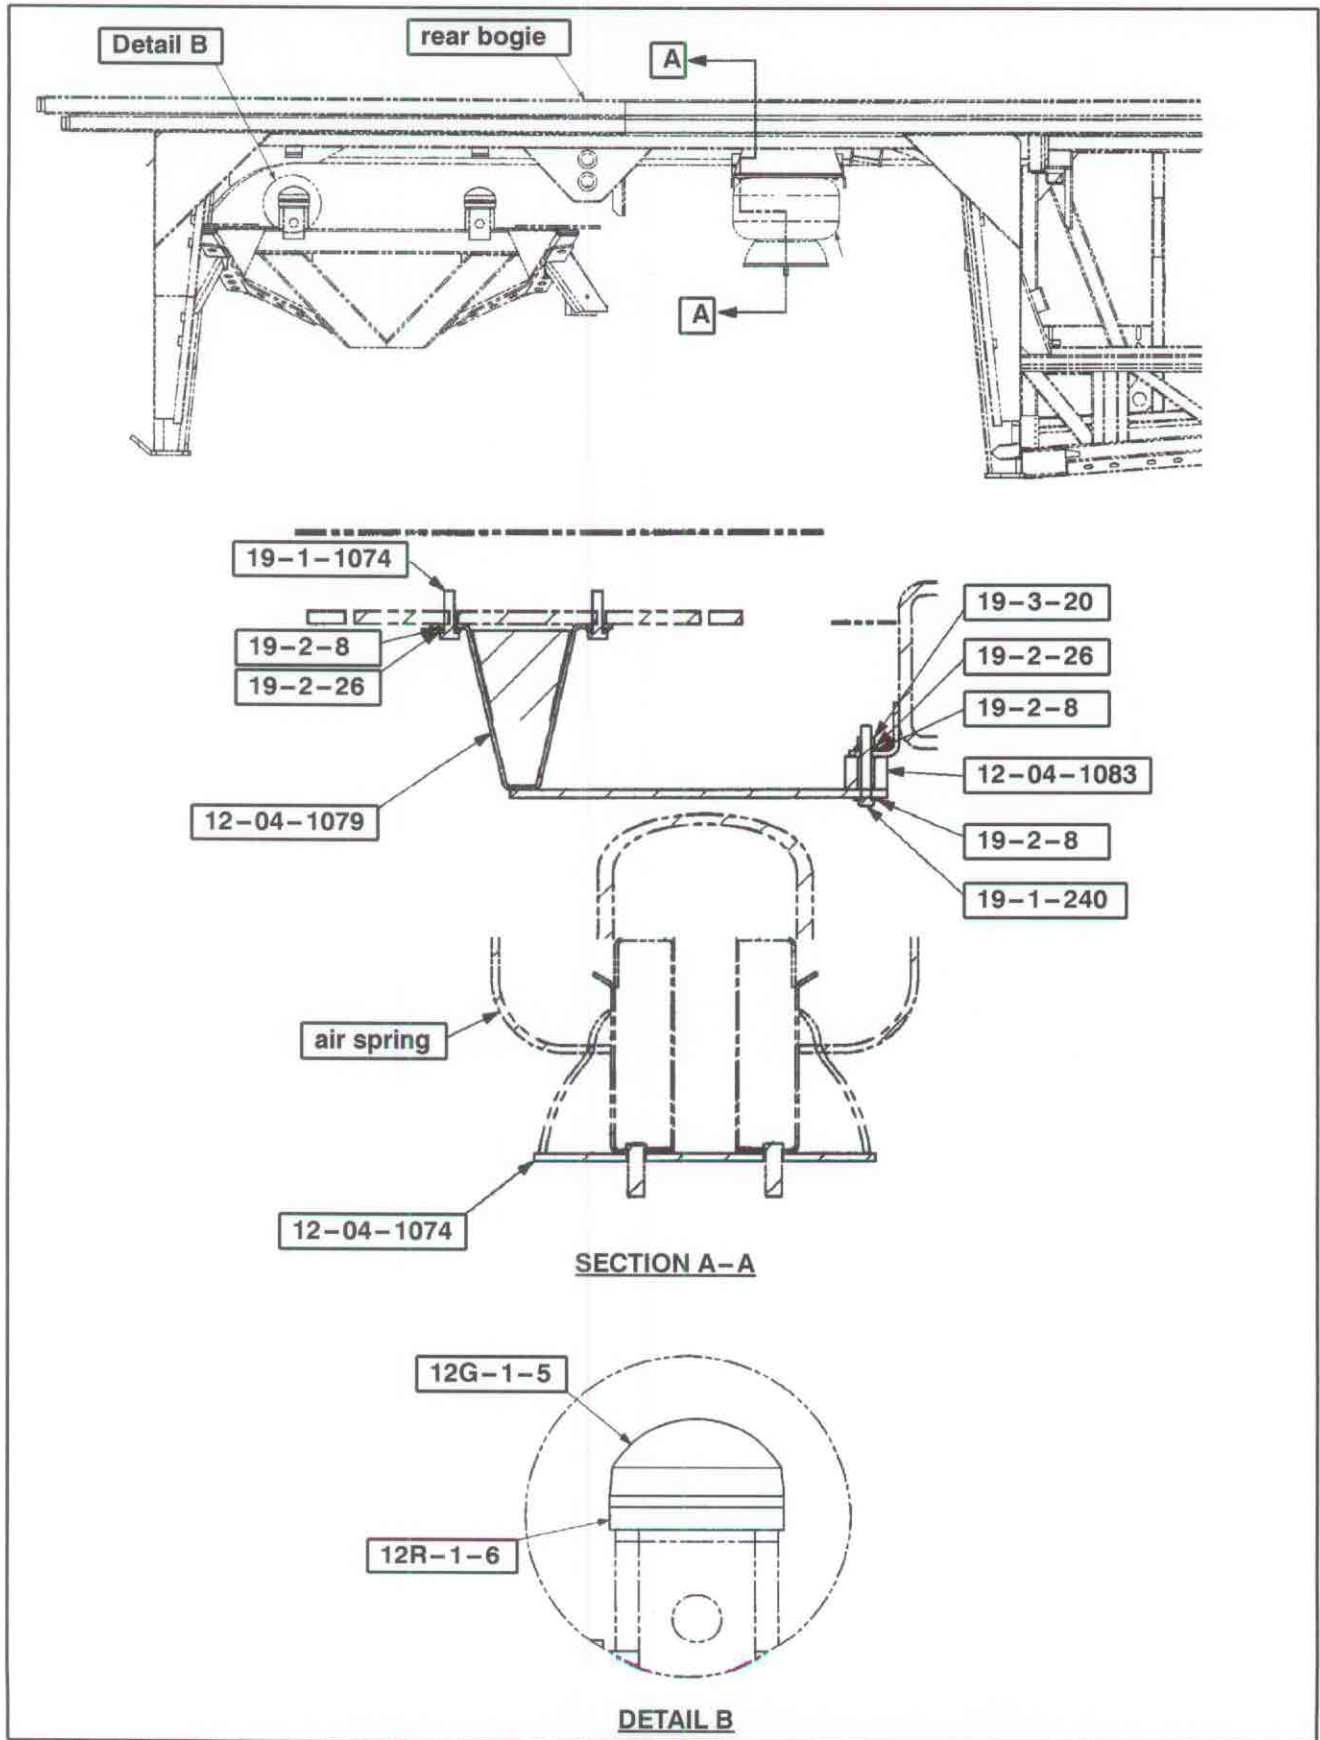

Figure 5.
14. Install the new rubber bumper (p/n 12G-1-5) and bumper block spacer (p/n 12G-1-6) (Detail B / Figure 5).
16. Install the new plate assembly (p/n 12-04-1079) and spacer (p/n 12-04-1083) in the locations shown in Figure 5., using the new plate assembly mounting hardware provided in the Parts list. Torque nut (p/n 19-3-314) to 18–22 ft.-lbs.
17. Align and position the spacer (p/n 12-04-1074) in the location shown in Figure 5.